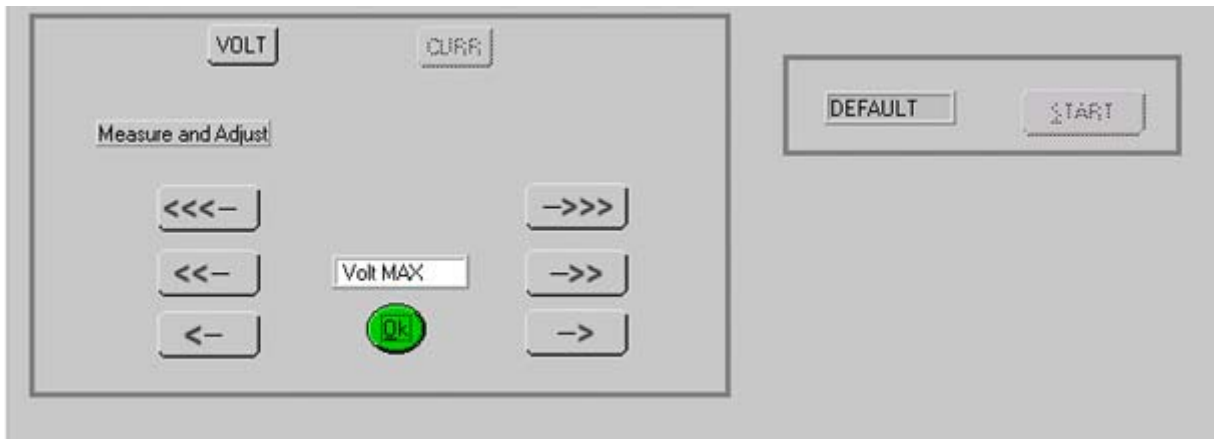

FIGURE 3-3. CALIBRATION PANEL
All adjustments are done using the six arrow buttons of the Calibration Panel (see Figure 3-3 and Table 3-4). The double arrow buttons **◀◀** and **▶▶** either increase (**▶▶**) or decrease (**◀◀**) the output five steps at a time; the **←** and **→** buttons either increase (**→**) or decrease (**←**) the output one step at a time. The triple arrow buttons **◀◀◀** and **▶▶▶** either increase (**▶▶▶**) or decrease (**◀◀◀**) the output 80 steps at a time. The **◀◀**, **▶▶**, **←**, and **→** buttons only work within the 80-step window established by **◀◀◀** and **▶▶▶**.
1. Click on the **Calibration Off** button on the main panel (see Figure 3-3). This will open a calibration panel (see Figure 3-3 and Table 3-4) that allows calibration in either voltage or current mode.
11. Voltage calibration is complete. If desired, the voltage calibration can be repeated by clicking **Volt** at the calibration panel (Figure 3-3). If current calibration is not necessary, proceed to step 23.
12. At the calibration panel (Figure 3-3) click **CURR** to begin current calibration of the unit. **Connect CALIBRATION RESISTOR!** window opens.
22. Current calibration is complete. If desired, the current calibration can be repeated by clicking **Curr** at the calibration panel (Figure 3-3).